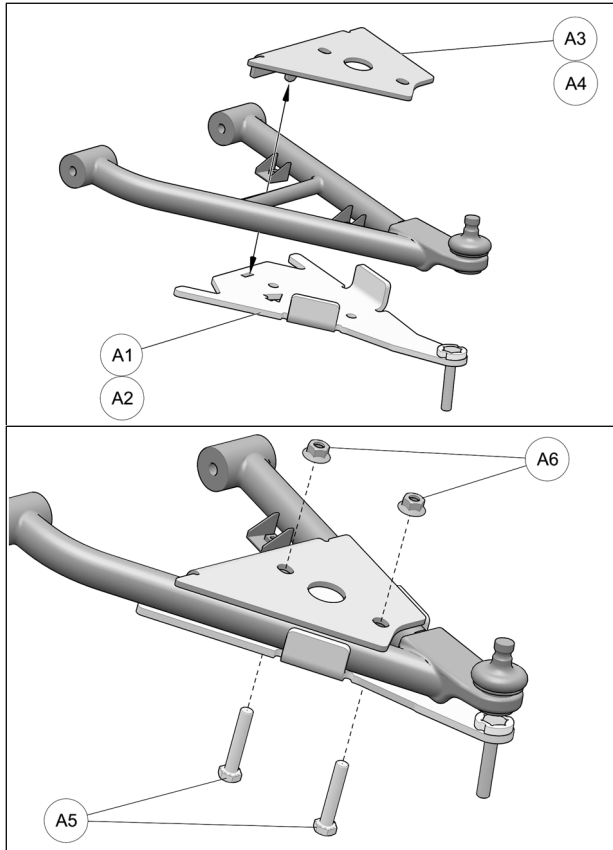

Fig. 13
- Position bottom part of anchor bracket (**A1-A2**) assembly under front lower suspension arm, as shown in the figure below. Position bracket cover (**A3-A4**) over suspension arm and align holes in cover and bottom part. Insert M10x55mm bolts (**A5**) from the bottom and secure the two parts together with the nuts (**A6**) provided. Tighten assembly to 50 N•m [37 lb•ft] of torque. Refer to Fig. 13